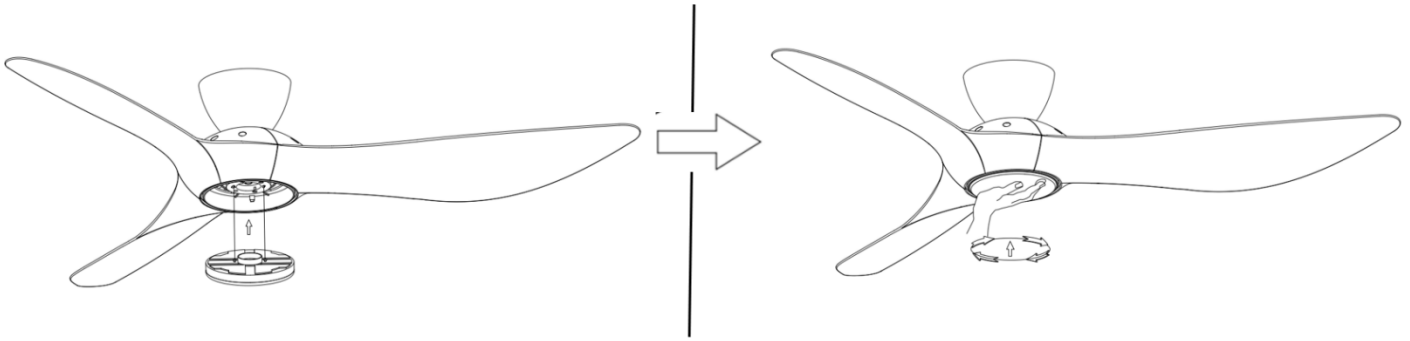

Fig. 11
- Install the Gx53 lamp on the fan assembly, then secure it by turning clockwise. (Fig.11)